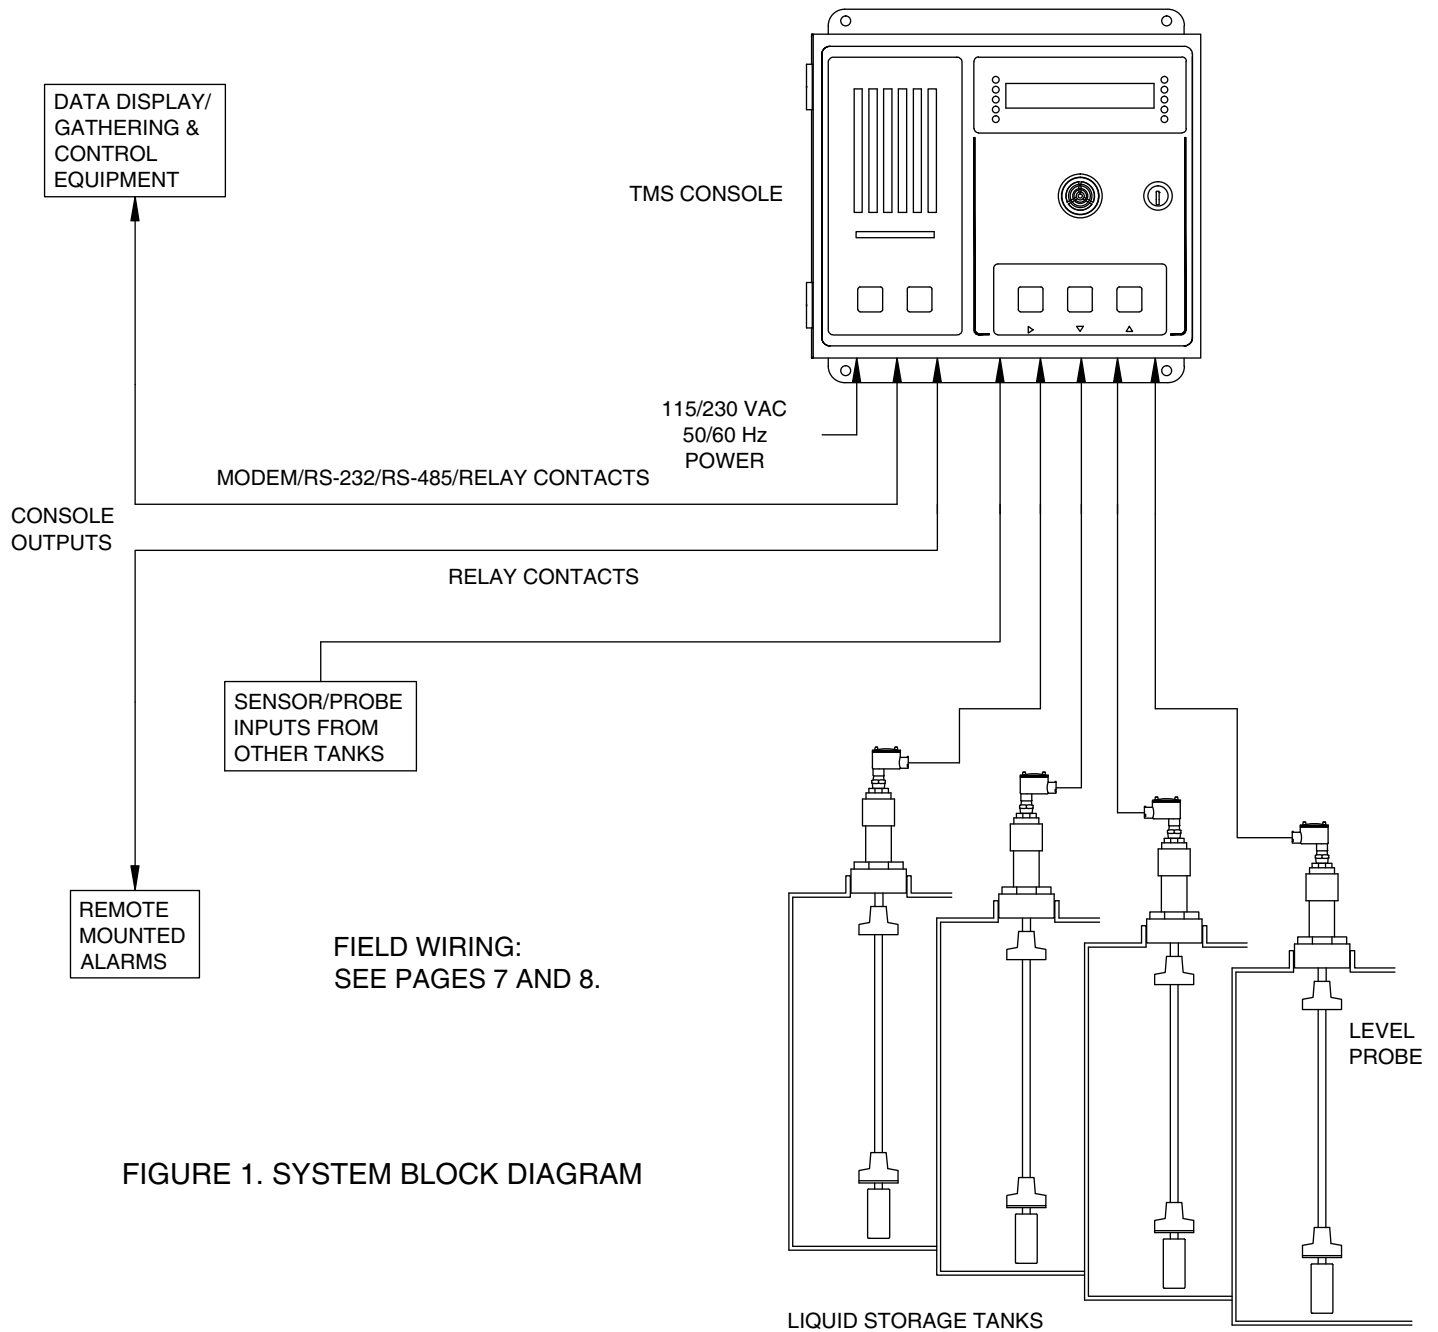

FIGURE 1. SYSTEM BLOCK DIAGRAM
**GENERAL SYSTEM OVERVIEW:** Figure 1 shows a block diagram of how the system should be configured for installation. It is supplied as a guide to planning the installation.